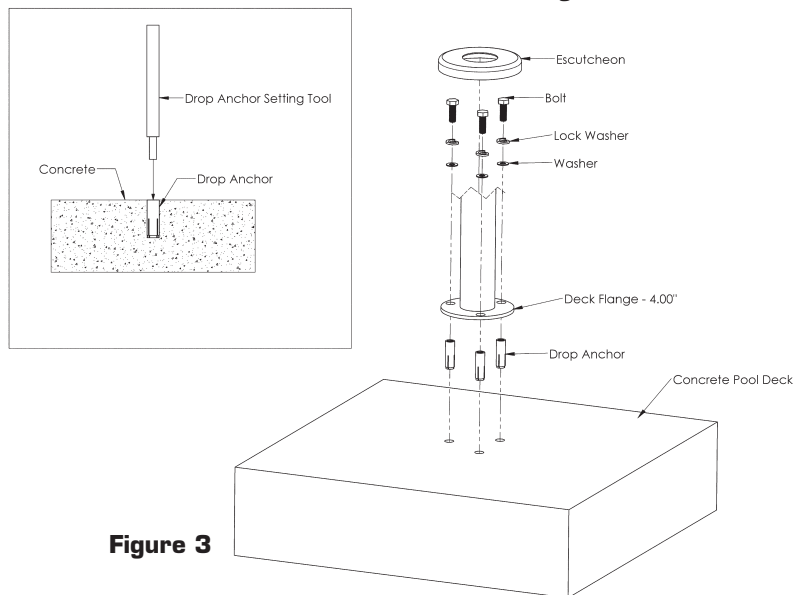

Figure 3
- Secure product with flat washer, lock washer and 1" bolt. (See Figure 3)